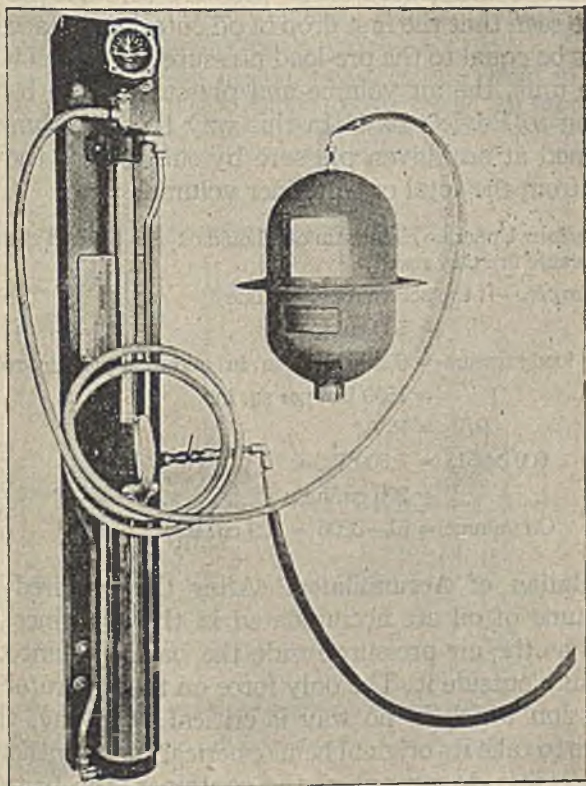

Fig. 65.—Accumulator air booster pump set up.
**Ans.** With a nitrogen bottle as shown in fig. 64, or an air booster pump such as shown in fig. 65.